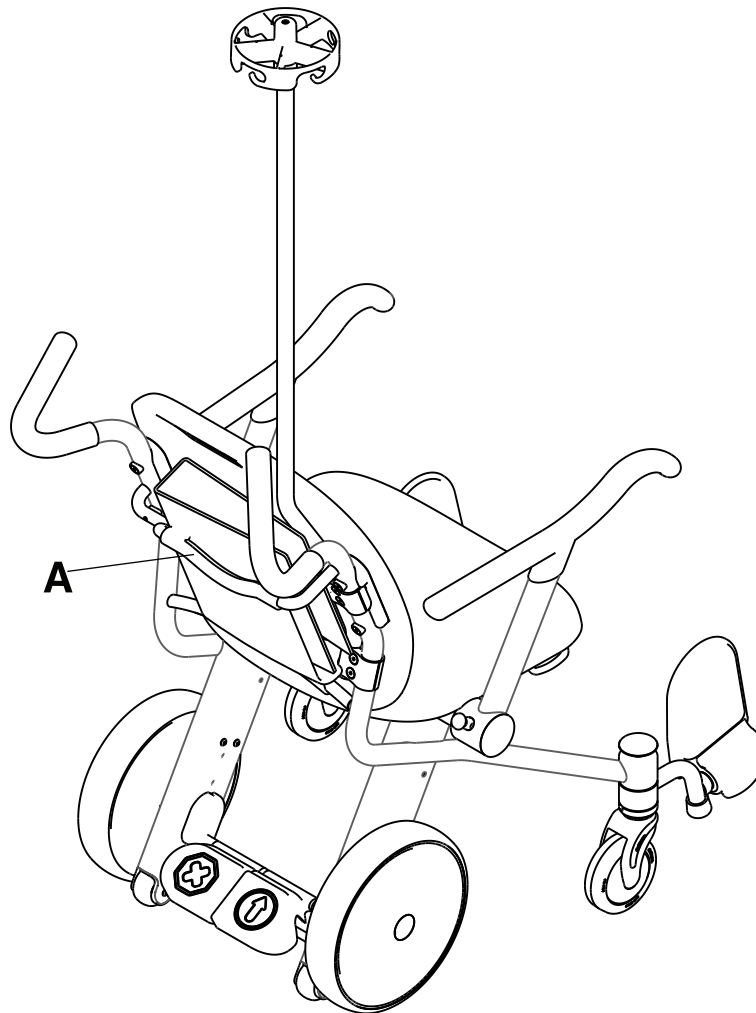

Figure 11: Storing records in the chart holder
Use the chart holder to store and transport occupant records (A) (Figure 11 on page 19). The chart holder holds a 3-inch, three-ring binder.